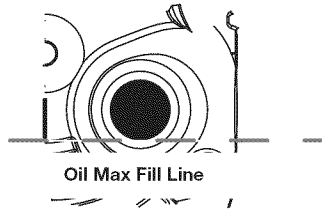
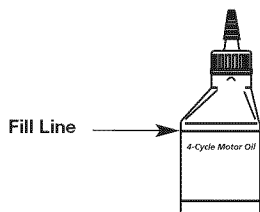

Fig. 22
Fig. 26
5. Look into the oil fill hole; use a flashlight if needed. The oil should be just touching the inner most thread (Fig. 22).
6. If the oil level is not touching the inner most thread on the oil fill hole, add a small amount of oil to the oil fill hole and recheck (Fig. 22). Repeat this procedure until the oil level reaches the innermost thread on the oil fill hole.
NOTE: Use the bottle and spout saved from initial use to measure the correct amount of oil. The top of the label on the bottle measures approximately 3.04 fl.oz. (90 ml) (Fig. 26). Check the level, See *Checking the Oil Level*. If the level is low, add a small amount of oil and recheck. Do not overfill (Fig. 22).